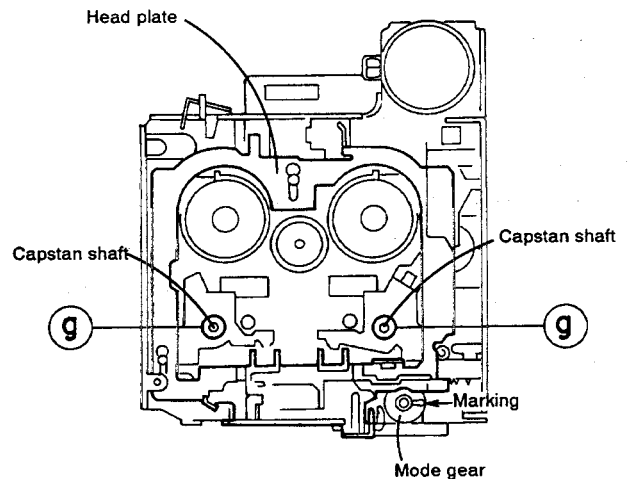

Fig. 2-19
9. Pull out the mode gear. (Fig. 2-19)
◆ **Removing the flywheel assembly (Fig. 2-19)**
7. Remove E washers ⑧ at the two positions which secure the capstan shaft away from the surface. (Fig. 2-19)